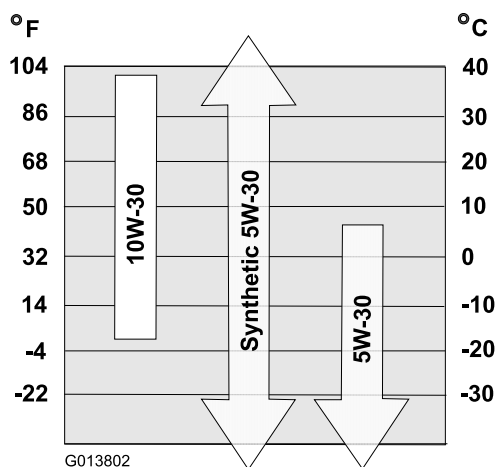

Figure 20
6. Use Figure 20 below to select the best oil viscosity for the outdoor temperature range expected: